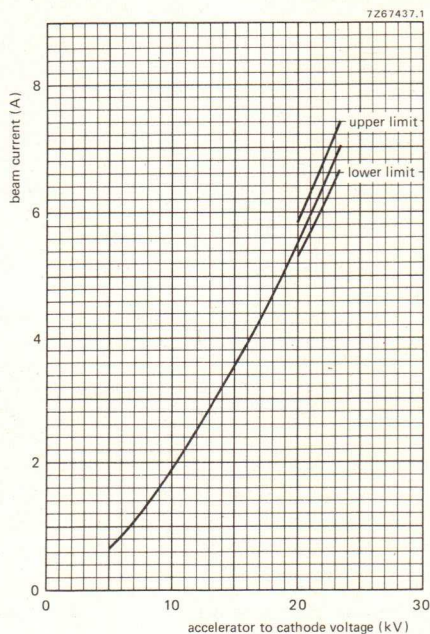

Fig. 4.
8. If the accelerator electrode is connected to the body (ground) via a 10 k Ω resistor, the beam current is within $\pm 5\%$ of the value given in the graph of Fig. 4.